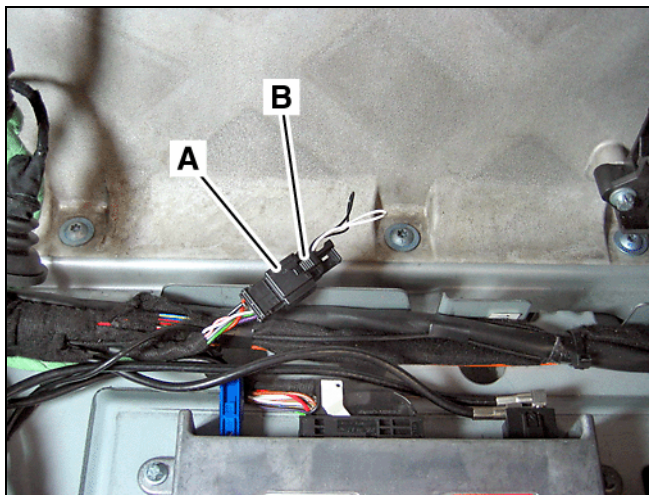

Figure 6
- Tele Aid microphone connector (A, Figure 6) and connected jumper (B, Figure 6) with black and white looped wires
8. Disconnect the jumper (B, Figure 6) with black and white looped wires from the Tele Aid microphone connector (A, Figure 6) and discard the jumper.